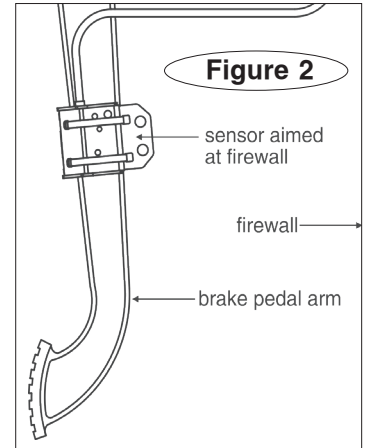

Figure 2
- Connect to power: first, determine if you will use the provided fuse tap or inline fuse holder (Options 1 and 2, Figure 2).
3. Insert the provided fuse into either the fuse tap or fuse holder (Figure 2).